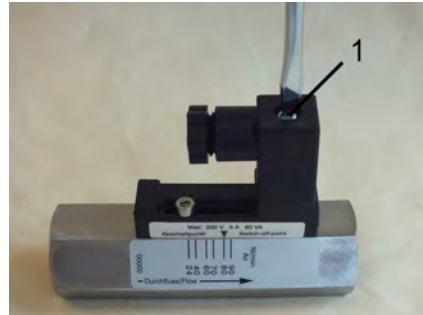

Fig. 43: Loosen female socket
1. ➤ Loosen the fixing screw of the female socket (Fig. 43/1) with a flat-bladed screwdriver.